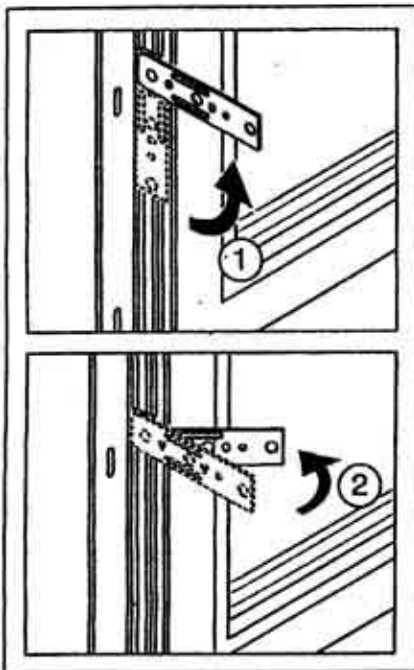

Figure 1-1. How to rotate and bend the strap anchors
- 1.2 If strap anchors are included with the window, rotate them until they are at right angles to the frame. Bend the strap anchors inwards about 45°. See fig. 1-1.